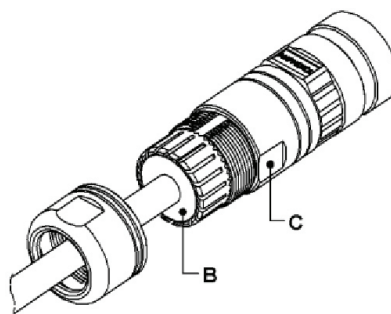

Figure 5
12. Push cable grommet (B) into backshell (C) as shown Figure 5.